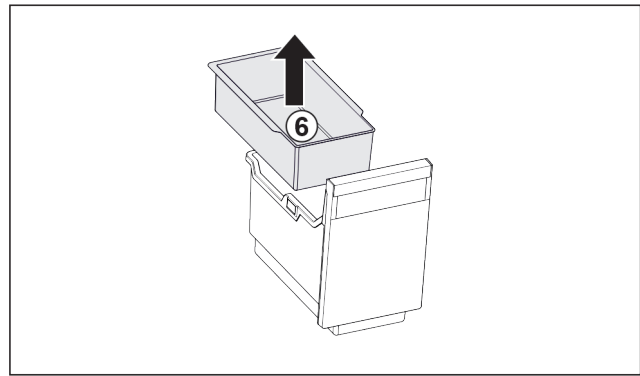

Fig. 24
- ▶ Remove the hang-on tray Fig. 24 (6).